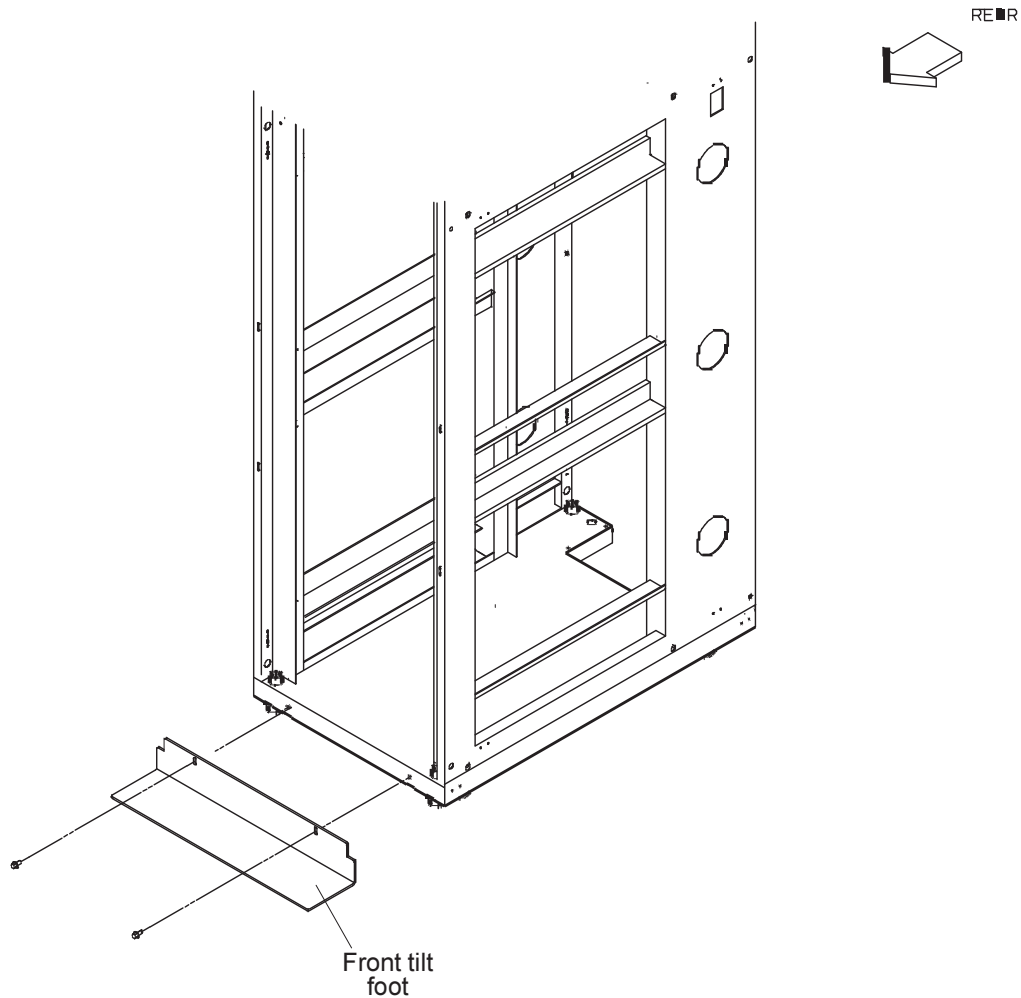

Figure 3. Stability kit
2. Install the frame-stabilizer foot on each cabinet. Figure 3 on page 7 shows how to install a frame-stabilizer foot.
A stability kit (IBM part number 41V0584), containing one stability kit, is included with the 1410 rack. Install the stability kit when the rack is at the final installation location. Figure 3 shows the attachment of the stability kit.